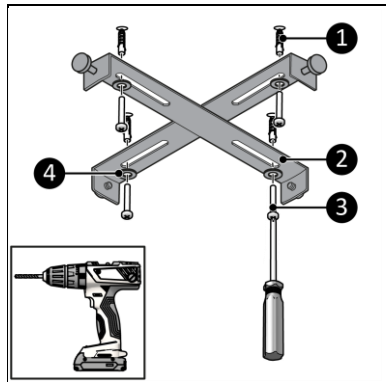

Figure 9
7. Place the plugs in the four holes (Figure 9, pos. 1).
8. Use the Philips screws (Figure 9, pos. 3) and the rings (Figure 9, pos. 4) to attach the suspension bracket (Figure 9, pos. 2) to the ceiling.